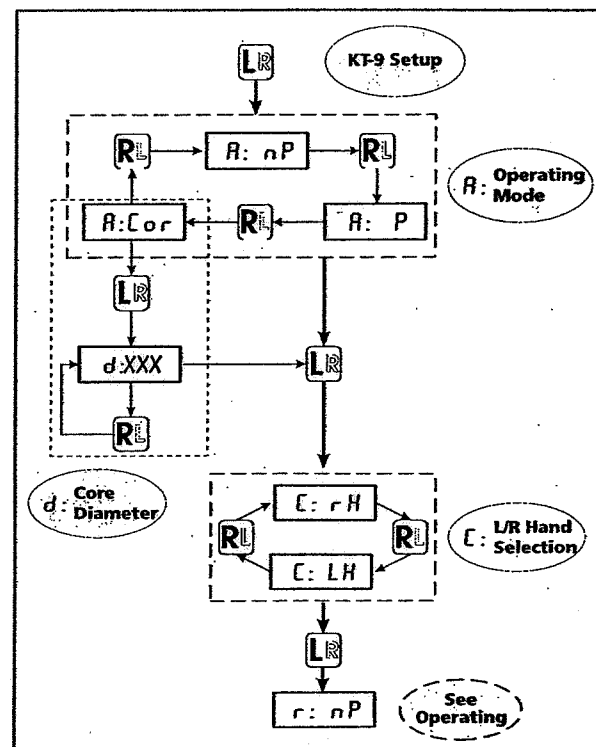

Figure 3 KT-9 set-up/configuration flow chart
- 2 Press the LEFT button twice to get to the *E*: menu. Please also refer to Figure 3 to see the flow of events.
- 2 Press the RIGHT button twice to get to the *E*: menu. Please also refer to Figure 3 to see the flow of events.